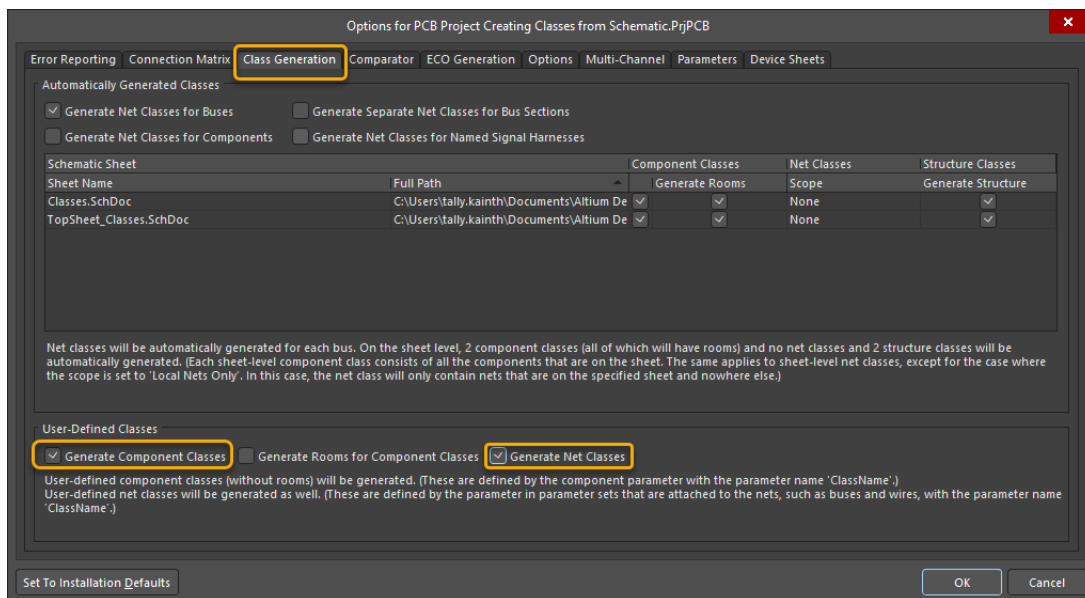

Figure 8. Project Options for User Class Configuration
42. Select the menu option **Project » Project Options** to open the *Options for PCB Project* dialog and select the *Class Generation* tab. The **User-Defined Classes** in the lower portion of the dialog must be enabled, in order for the classes defined in the schematic editor to update to the PCB. Verify if the **Generate Component Classes** and **Generate Net Classes** options are enabled. See Figure 8.